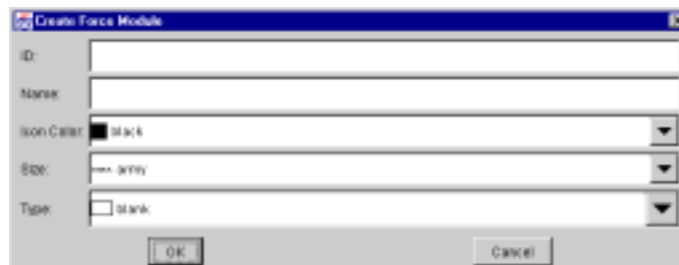

Figure 5.138 Create Force Module Window
3. Click the **+** (Add) button at the bottom of the window. The Create Force Module window opens (Figure 5.138).